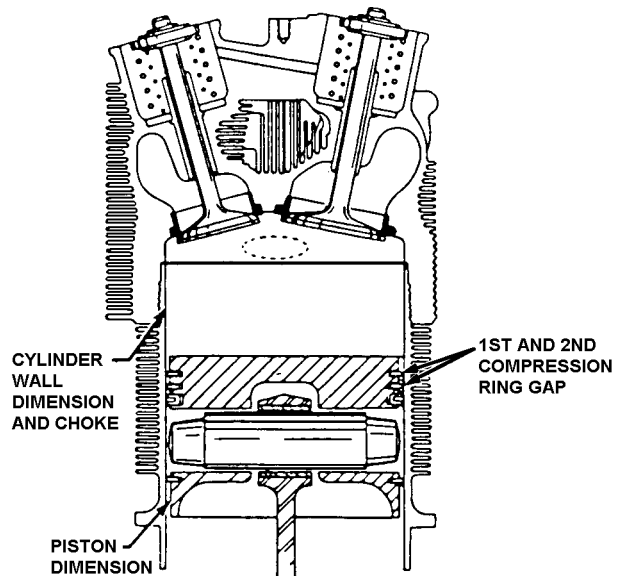

Figure 19-9
8. If leakage is noted between the cylinder head and barrel, **REPLACE THE CYLINDER**, (See Figure 19-9, "Dynamic Seal.")